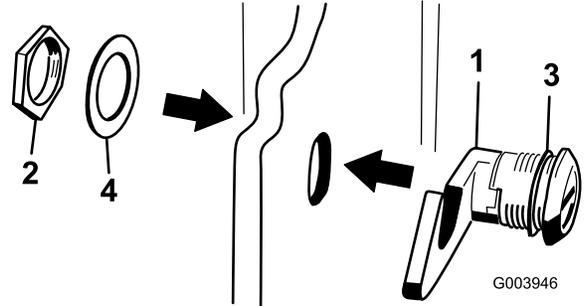

Figure 18
3. Remove the nut from the hood-latch assembly (Figure 18).